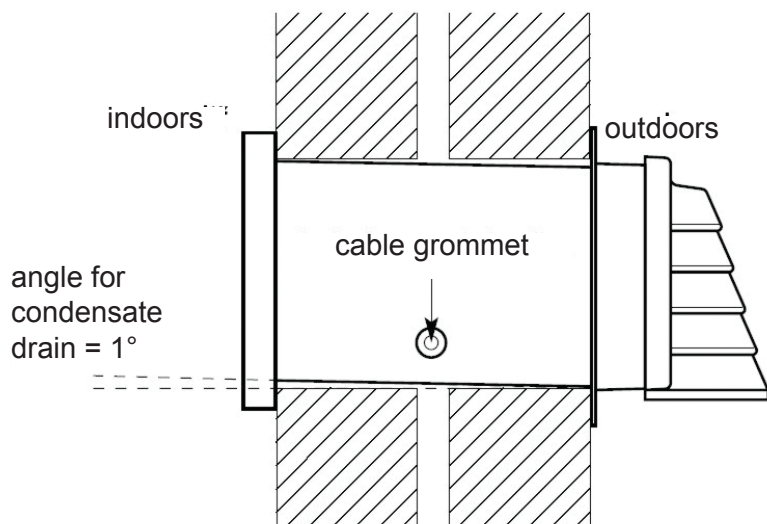

Fig. 4
3. Carefully cut the holes in the inner and outer walls to form a suitable aperture to receive the unit. Ensure that the unit is positioned with a slight outward inclination (Fig. 4).